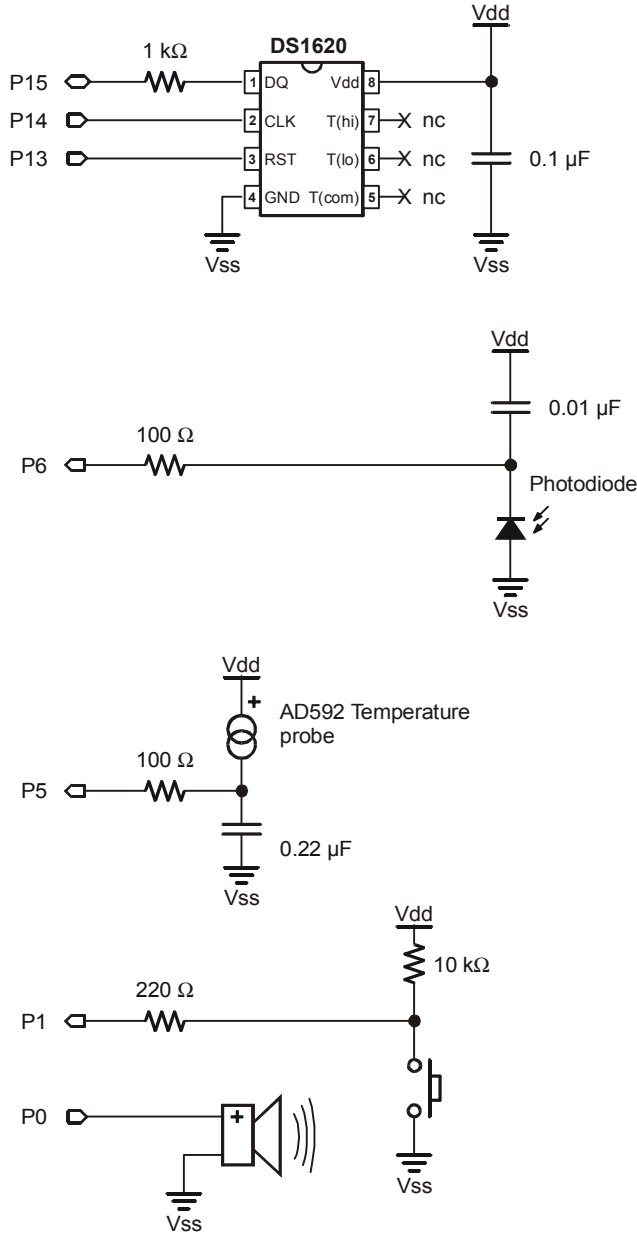
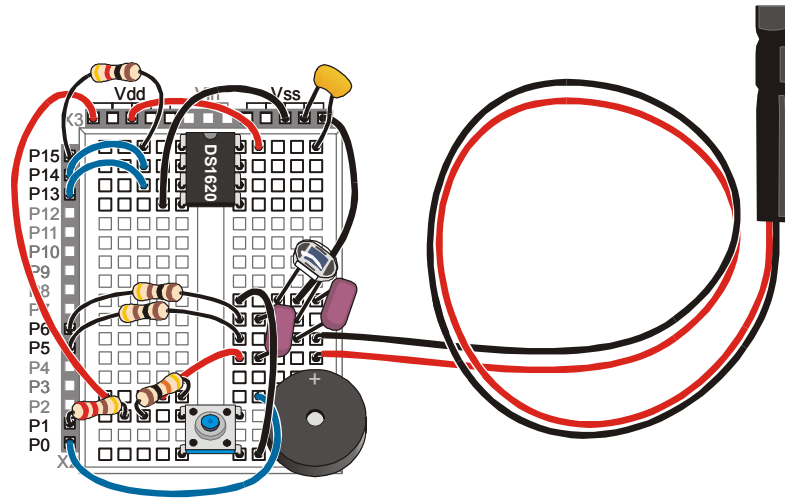

Figure 4-6
Figure 4-7: Photodiode Light Transducer Wiring Diagram
- √ Add the circuit to your breadboard as shown in the schematic (Figure 4-6) and wiring diagram (Figure 4-7).
Note: A node consists of all the points in a circuit that are connected together. Each row of 5 holes on the Board of Education or the HomeWork Board is a node, because all of the holes are connected electrically. One node in Figure 4-7 is the row where the diode, the capacitor and P6 (via the resistor) meet.